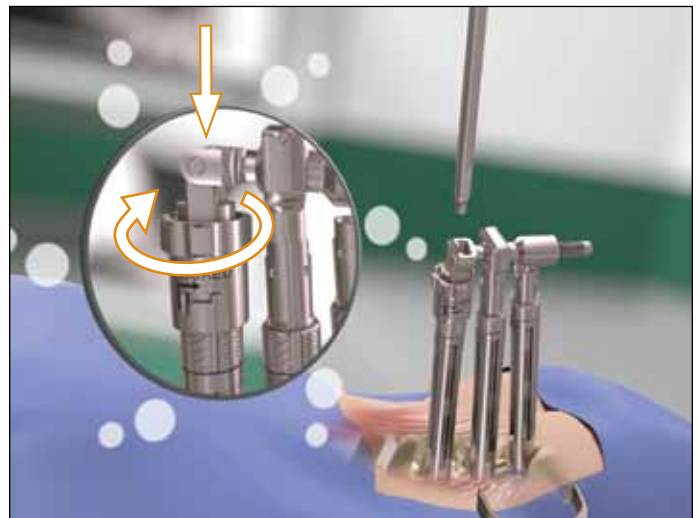

FIG. 34
- To secure the locking cap onto the Screw Extension, push down and rotate the cap clockwise to the “lock” position. **(FIG. 34)**